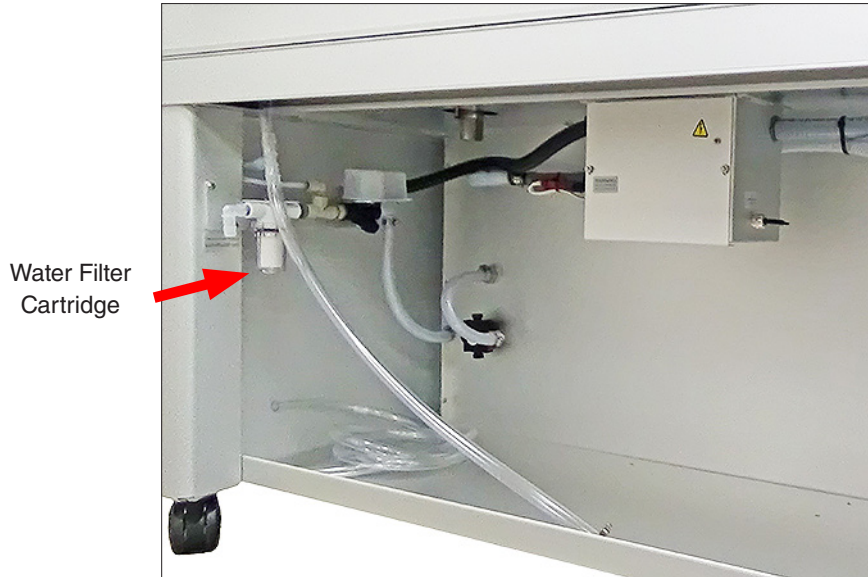

Figure 14.4a: Water filter cartridge location.
- Inspect the water filter cartridge (Figure 14.4a) every 6 months.